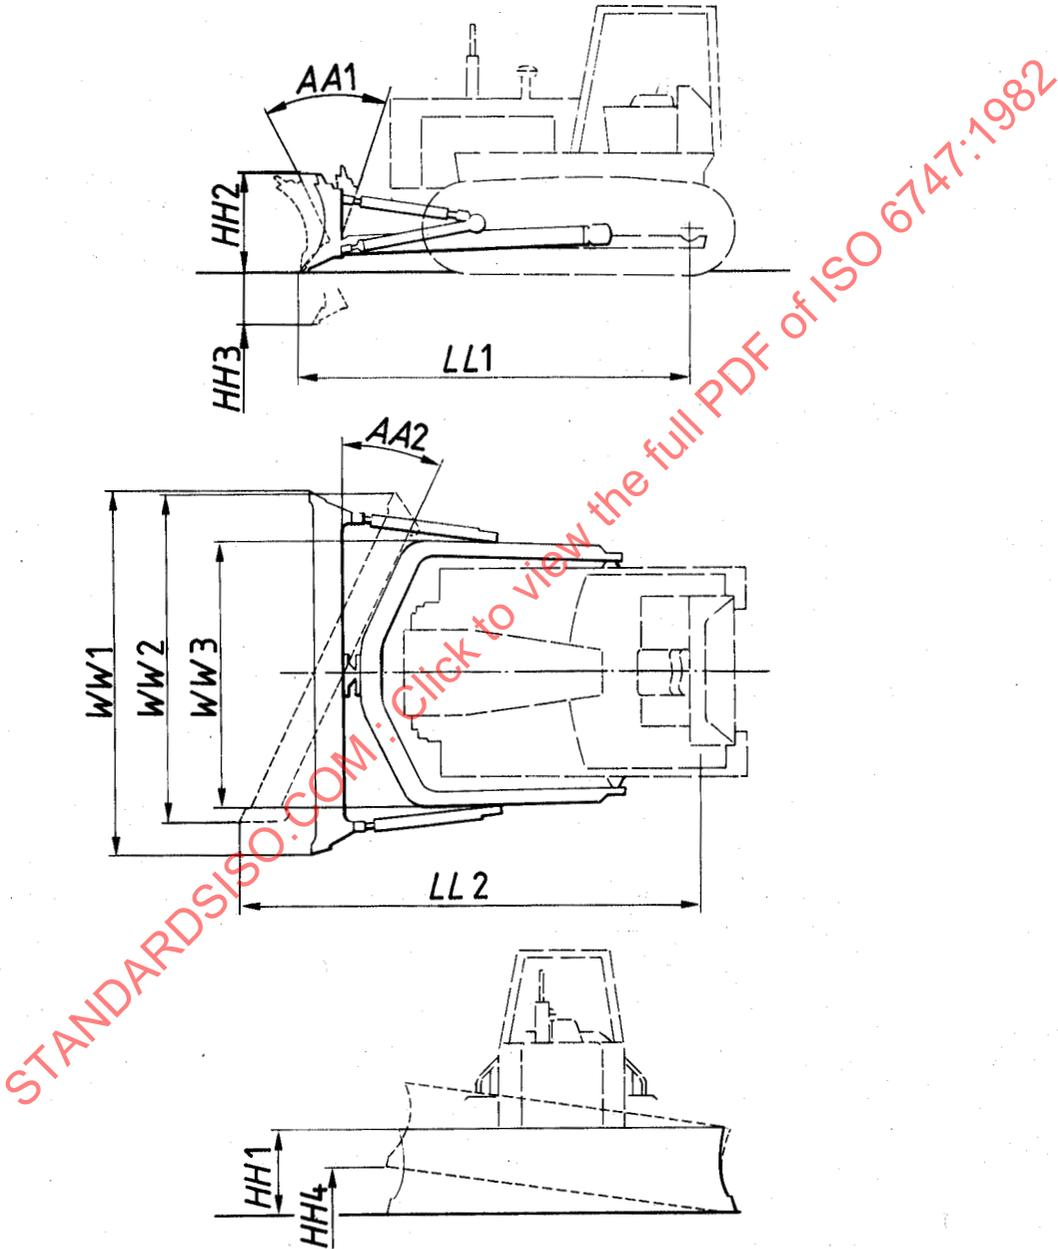

Figure 15 – Dimensions of dozer equipment (crawler tractor)
6.2 Dimensions (see figures 15 and 16)